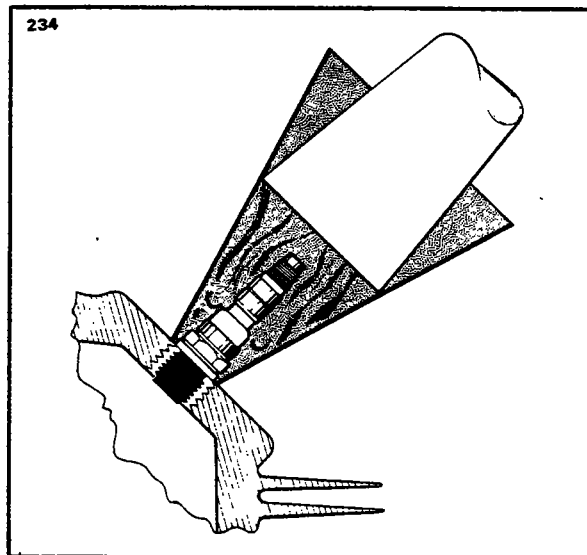

Figure 8A-31. Removing Spark Plug
d. Removal of seized spark plugs in the cylinder may be accomplished by application of liquid carbon dioxide by a Conical metal funnel adapter with a hole at the apex just large enough to accommodate the funnel of a CO₂ bottle. (Refer to Figure 8A-31.) When a seized spark plug cannot be removed by normal means, the funnel adapter is placed over and around the spark plug. Place the funnel of the CO₂ bottle inside the funnel adapter and release the carbon dioxide to chill and contract the spark plug. Break the spark plug loose with a wrench. A warm cylinder head at the time the carbon dioxide is applied will aid in the removal of an excessively seized plug.